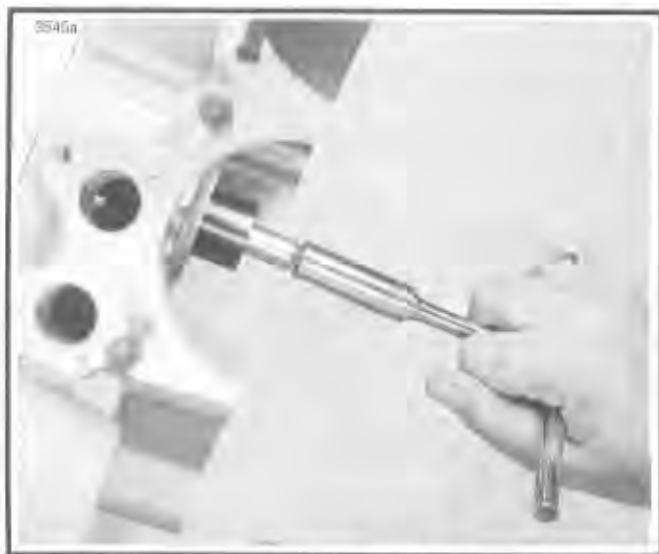

Figure 3-68. Line Reaming Pinion Shaft Bushing
2. See Figure 3-68. Install PINION SHAFT BUSHING REAMER PILOT (Part No. HD-94812-87) into right crankcase roller race. Insert PINION SHAFT BUSHING REAMER (Part No. HD-94812-1) through the pilot.